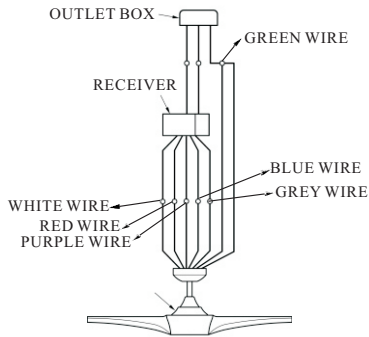

FIG.8
2. Connect the red wire from receiver to the red wire from fan with wire nut. Connect the purple wire from receiver to the purple wire from fan with wire nut. Connect the blue wire from receiver to the blue wire from fan with wire nut. Connect the grey wire from receiver to the grey wire from fan with wire nut. Connect the white wire from receiver to the white wire from fan with wire nut. Connect the green wire from ceiling, and green wire from hanger bracket with green wire from downrod ball with wire nut. (See fig.8)